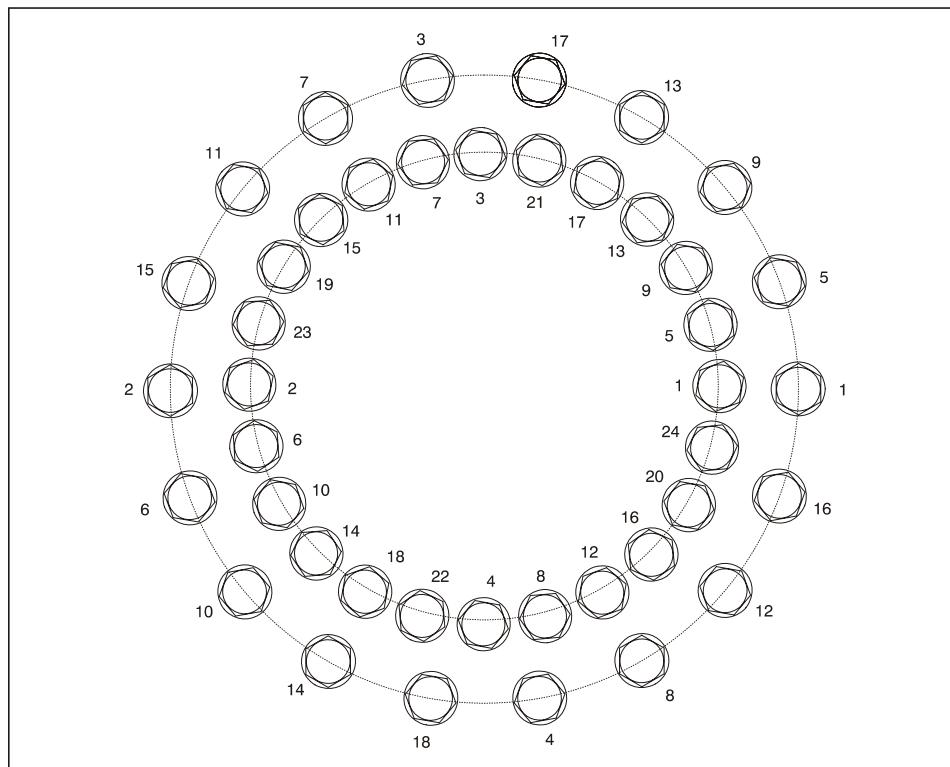

Figure 3-15. Swing Bearing Torquing Sequence
- b. Line up high spot (blue) of bearing with center tooth of worm gear. Set backlash to 0.008 - 0.010 inch (0.20 - 0.25 mm). Tighten capscrews as shown in Figure 3-15., Swing Bearing Torquing Sequence.
- g. Following the torque sequence diagram shown in Figure 3-15., tighten the bolts to an initial torque of 130 ft. lbs. (175 Nm). Then following the same sequence, tighten to a final torque of 190 ft. lbs. (260 Nm).
- l. Following the torque sequence shown in Figure 3-15., tighten the bolts to an initial torque of 130